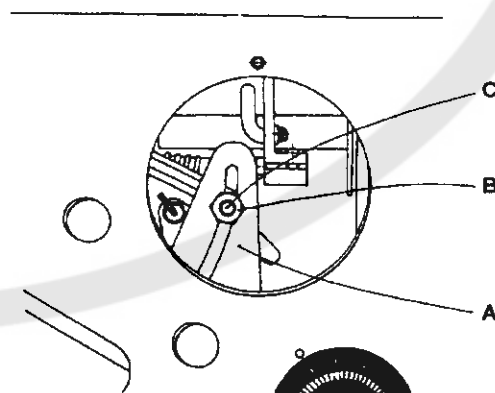

Fig. 12
Remove the cover situated on the machine arm so as to gain access to the lever (A, Fig. 12) controlling the movement of the needle bar holder and with a wrench loosen the nut (B) on the bolt (C) holding the tie rod of the needle bar holder. Move the bolt in the notch of the lever (A) downwards to reduce the width of the pattern, or upwards, to increase it. When increasing the stitch width to the maximum check whether the needle does not collide with the throat plate. To fix the adjusted position of the bolt (C), retighten the nut (B). When adjusting the width of the pattern to be sewn, be sure to keep it within the admissible limits as specified in the list of equipments. When using a double-needle equipment, be sure to limit the zigzag stitch width to a value providing for a sufficient play of the needles with respect to the needle aperture of the throat plate.